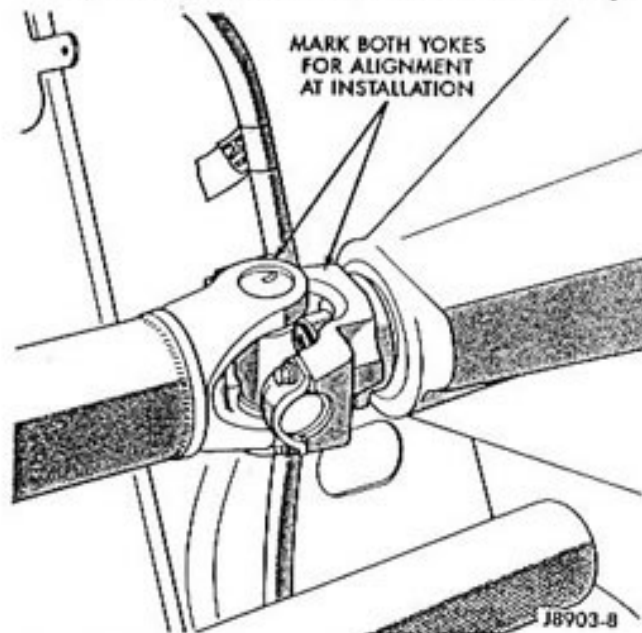

Fig. 5 Marking Propeller Shaft And Axle Yoke For
- (8) Disconnect and remove the rear propeller shaft.
- (9) Position a safety stand under the transfer case to support the transmission/transfer case assembly.
- (10) Remove the rear crossmember.
- (11) Disconnect the speedometer cable and remove the engine speed sensor.
- (12) Disconnect the backup light switch wire connector.
- (13) Disconnect the transfer case vent hose.
- (14) Disconnect the transfer case vacuum hoses and range linkage. Mark the vacuum hoses for reference.
- (15) Mark the front propeller shaft for alignment reference (Fig. 5) and remove the shaft.
- (16) Disconnect the clutch cylinder hydraulic line from the throwout bearing inlet line.
- (17) Place a transmission jack under the transmission/transfer case assembly. Then secure the assembly to the jack with safety chains.
- (18) Remove the clutch housing brace rod.
- (19) Remove the clutch housing-to-engine bolts and remove the transmission-transfer case assembly.
- (20) Remove the bolts attaching the transmission to the transfer case and separate the components.
- (21) Remove the hydraulic throwout bearing.